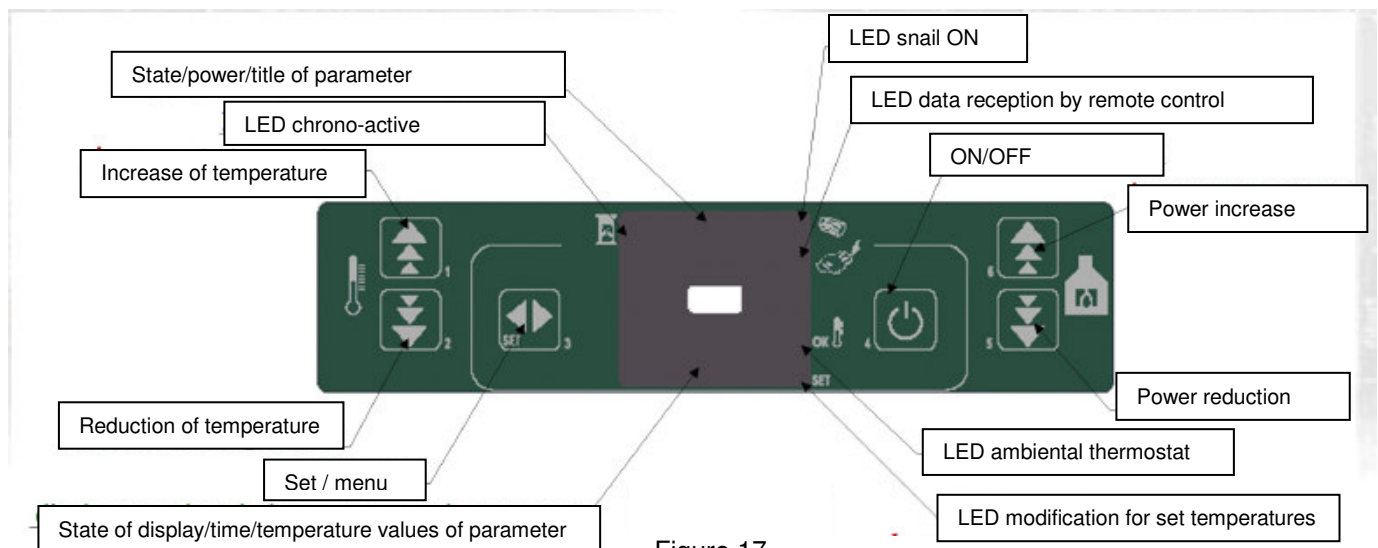

Figure 17
9.1 DESCRIPTION OF THE ELECTRONIC CARD (KEYBOARD) (figure 17)